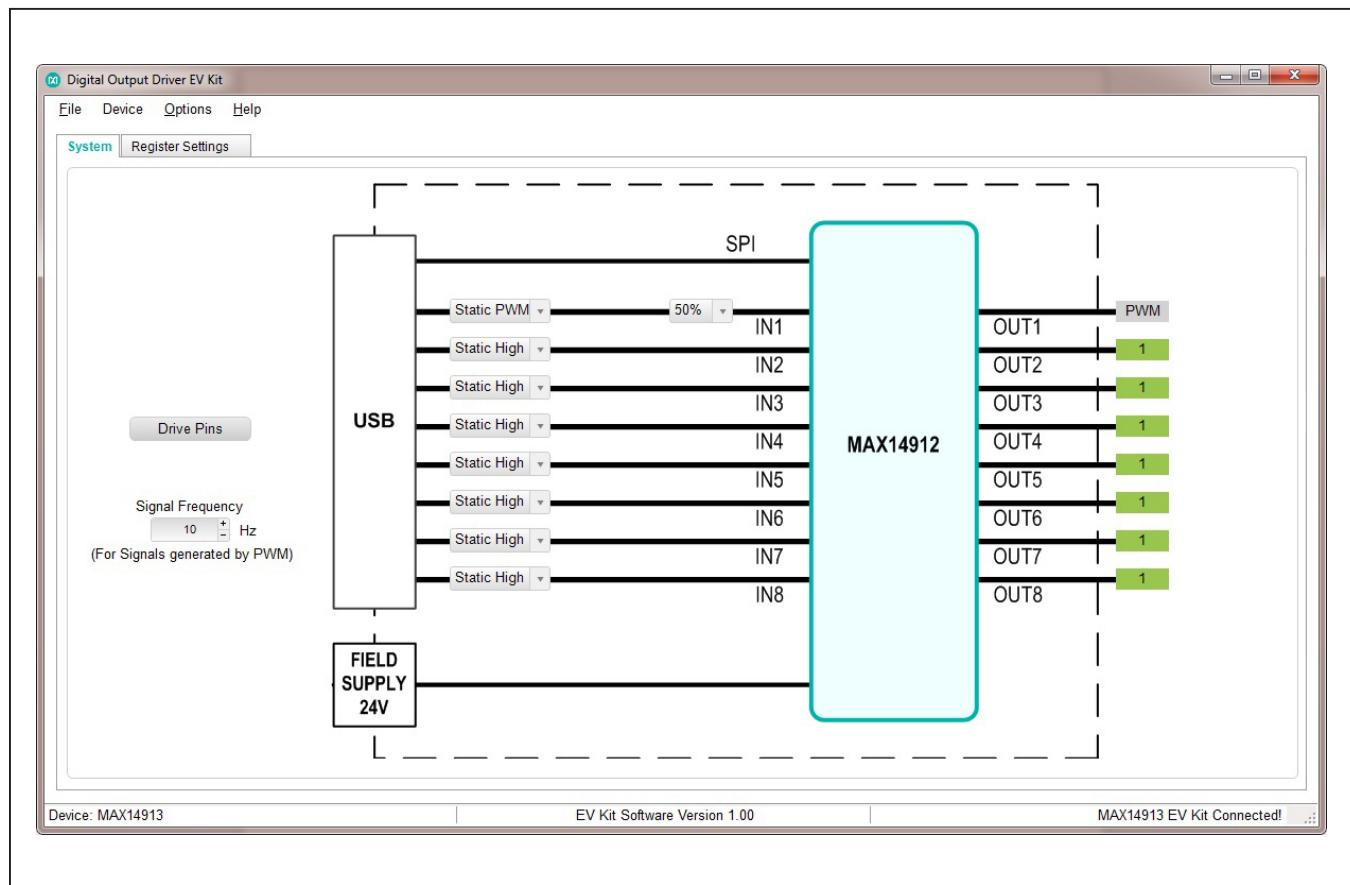

Figure 2. System Tab. Static PWM Configuration
- 11) Change the input signal to **Static PWM**. Select the duty cycle from the pulldown menu, refer to Figure 2, and observe the output on corresponding OUT\_ test point by oscilloscope.
In static PWM and PWM mode, the GUI generates a 1kHz (if SRIAL pin is high) or 20kHz (if SRIAL pin is low) square wave. The level of modulation is selectable from the pulldown menu from 0% to 100%. Refer to Figure 2.